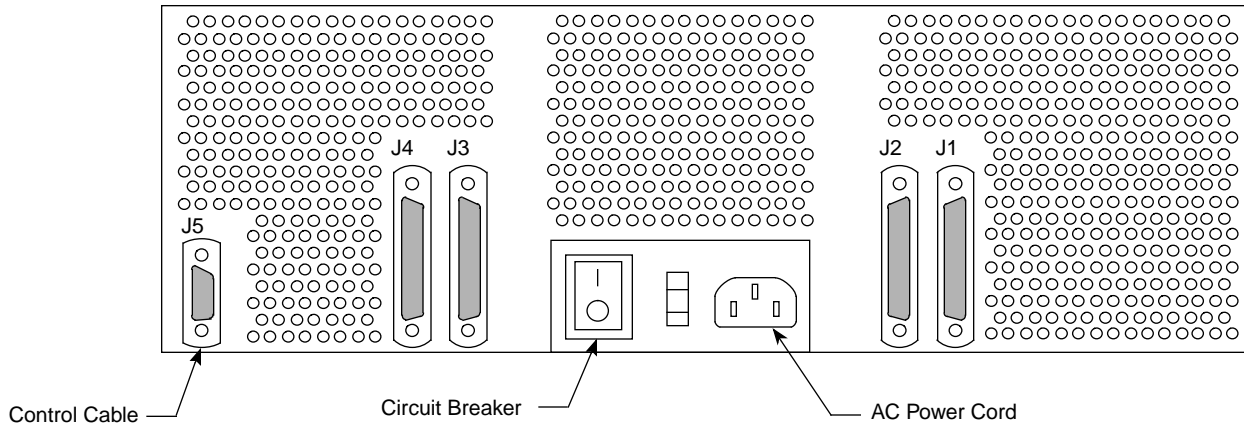

Figure 5. J1 and J3 Connections
1. Install the terminators (P/N 90266100) on the J1 and J3 connectors on the rear of the PE-10I tray. Refer to Figure 5.
2. Connect the power cable (P/N 90307100) into the power cord outlet on the rear of the PE-10I tray. Refer to Figure 5.
3. Connect the control cable (P/N 90307000) into connector J5. Refer to Figure 5.
4. Connect the IPI cables (P/N 90268100) into connectors J2 and J4. Refer to Figure 5.